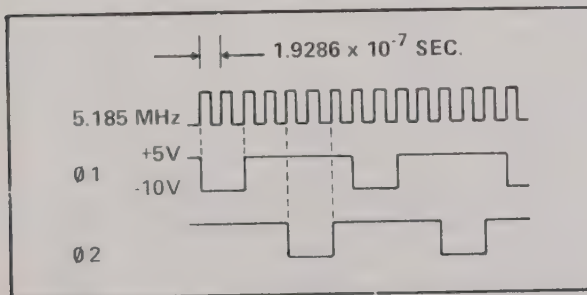

Figure 3-3. Two Phase Clock Timing Diagram
3-24. In operation crystal Y1 provides the time base (1/5.185 MHz) for a free running oscillator. Counter U8 divides the oscillator output by seven and presents its Q1 (2) and Q2 (4) outputs to gates U7B (01) and U7C (02) for decoding. The decoded outputs are then presented to U2 where the 20 TTL output signals are shifted to the +5 and -10 volt levels required by the microprocessor set. The timing of the 20 clock is shown in Figure 3-3.